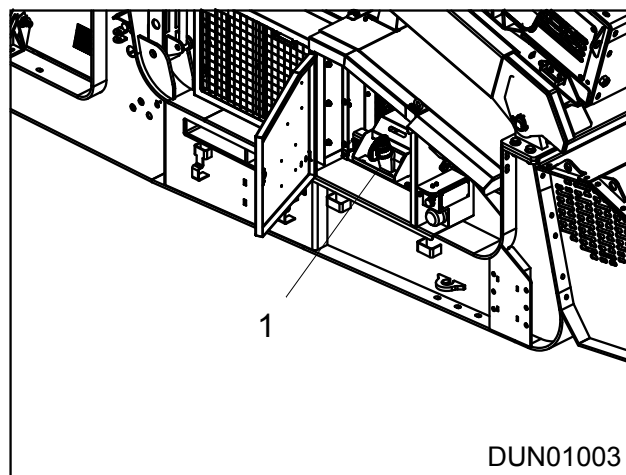

Figure 9.33 - Location of the DEF tank (item 1).
1. Ensure that the area around the main filter is clean and free from dirt. A 27mm Bi-Hex socket is needed to remove the filter cap (Item 3): Ref Figure 9.33.